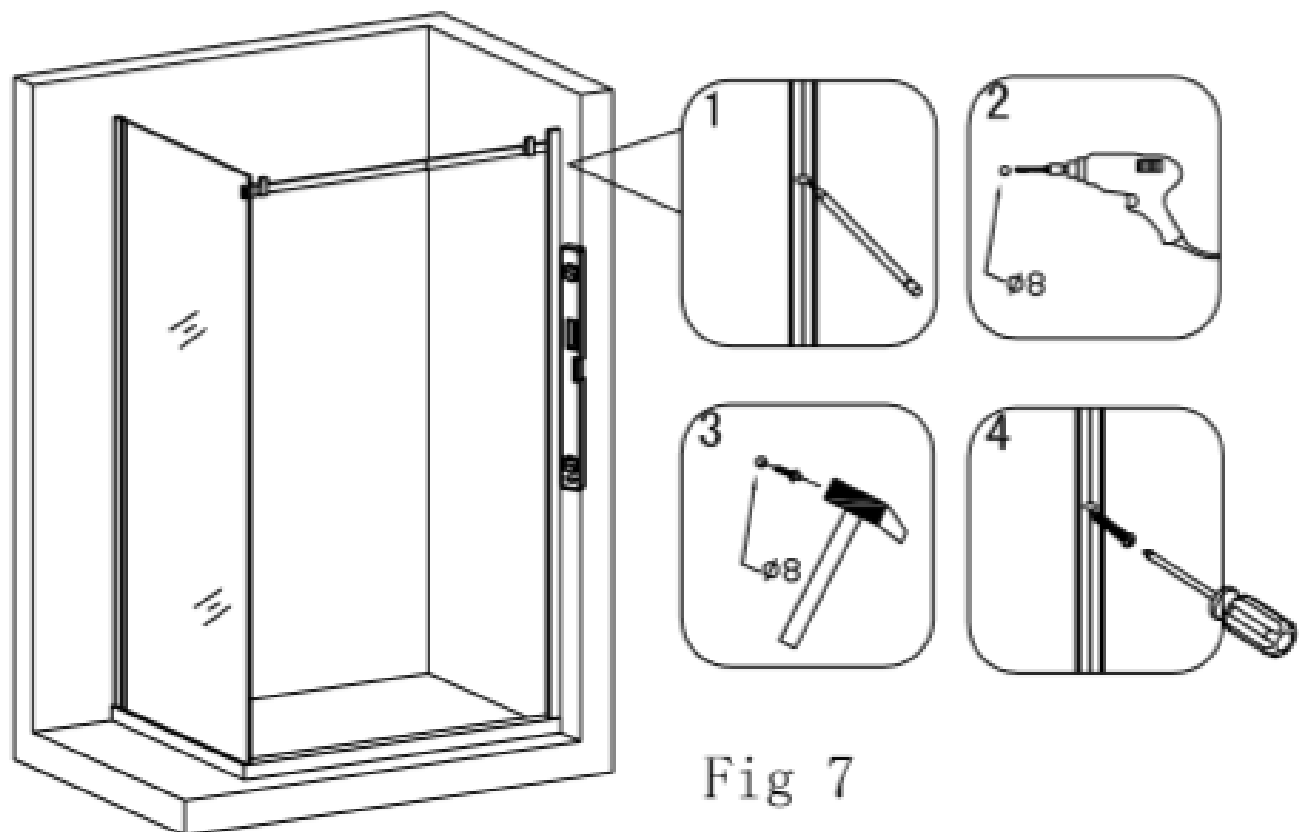

Fig 7
7. Fix the **wall profile (6)** on the wall, then install **glass profile (5)** and **fixed glass (17)**. (Fig 7 & 8)